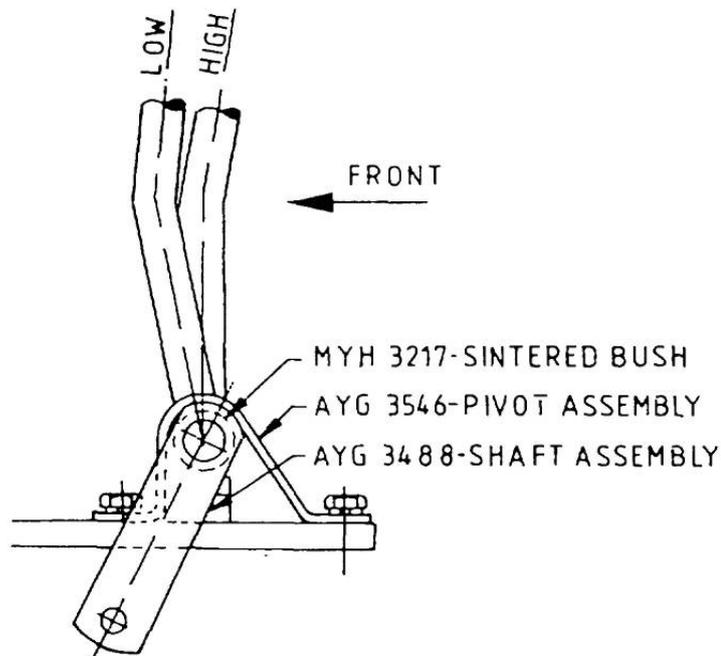

Figure 93 High/Low Range Selector Lever
- c. Remove the four bolts securing the pivot assemblies to the gearbox (Figure 93).